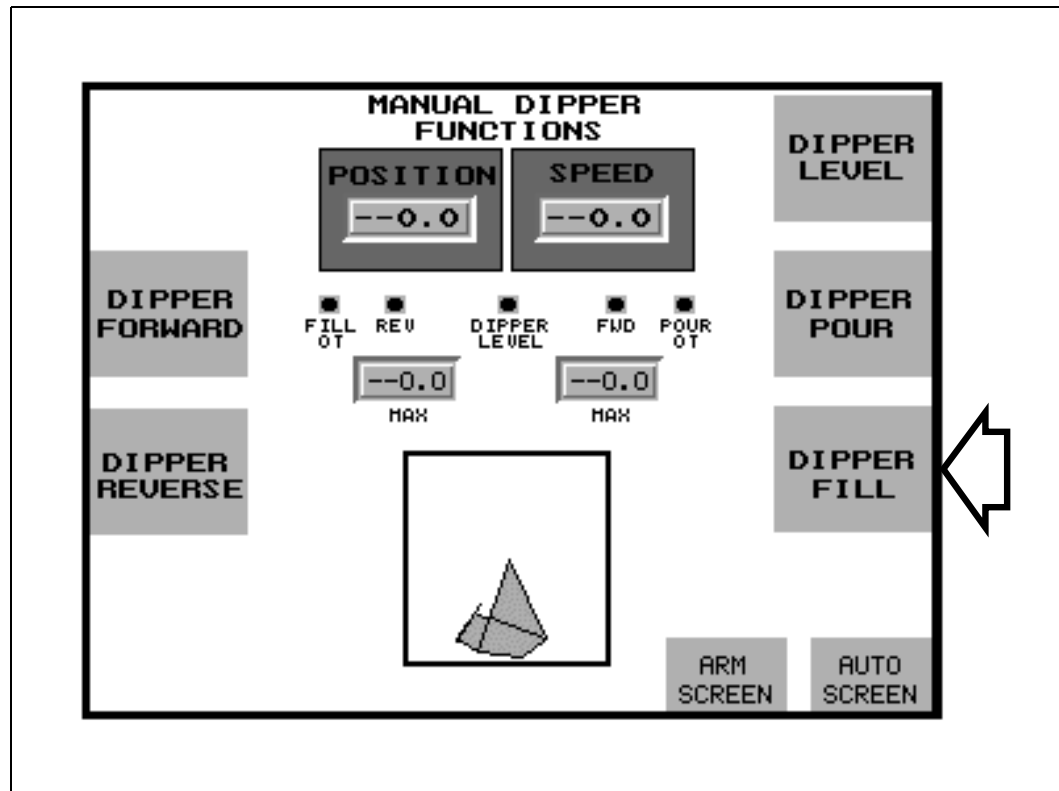

Figure 7-20: Manual Dipper Functions Screen
2. Access the Manual Dipper Functions Screen (Figure 7-20) by pressing **Main>Control>Dipper Screen**. Then press the **DIPPER FILL** key to rotate the dipper to the required fill angle.